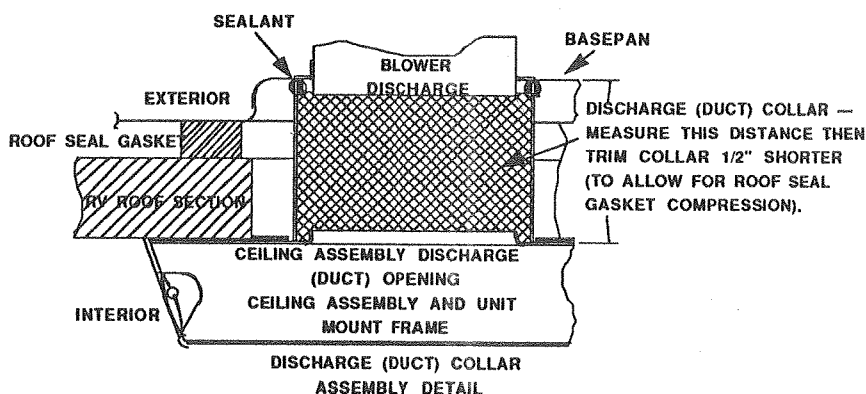

FIGURE 6
D. On ceiling assemblies equipped with the Elect-A-Heat heater package (heat/cool ceiling assemblies) detach the bottom heating element support plate by loosening the six (6) screws located around the outer edge. The heat element support plate can now be slid over the screw heads. The electrical connection plug will need to be disconnected before the heat element support plate can be removed. **THIS ENTIRE STEP "D" IS NOT REQUIRED ON COOLING ONLY CEILING ASSEMBLIES.**
E. Before the ceiling assembly can be mounted to the roof top air conditioner, the soft aluminum duct collar must be properly sized (trimmed). Measure the distance between the bottom of the air conditioner base pan and the vehicle interior ceiling line (see Figure 6). Take the
- F. Square the duct collar (hand form) and place the untrimmed (factory sheared) end of the duct collar over the ceiling assembly discharge opening flange (see Figure 6).